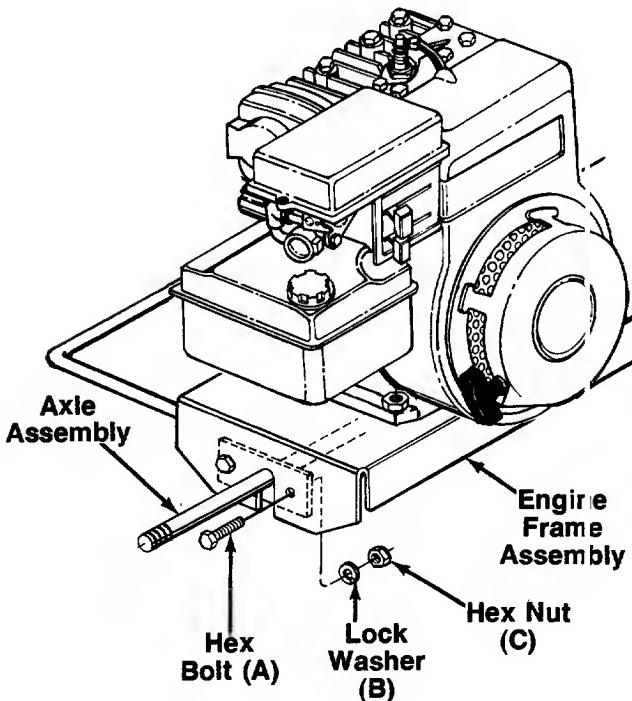

FIGURE 2.
2. Place the axle assembly in position inside the engine frame assembly as shown in figure 2.
3. Secure with 1" long fine thread hex bolts (A), four lock washers (B) and fine thread hex nuts (C), using two 9/16" wrenches. Tighten securely.